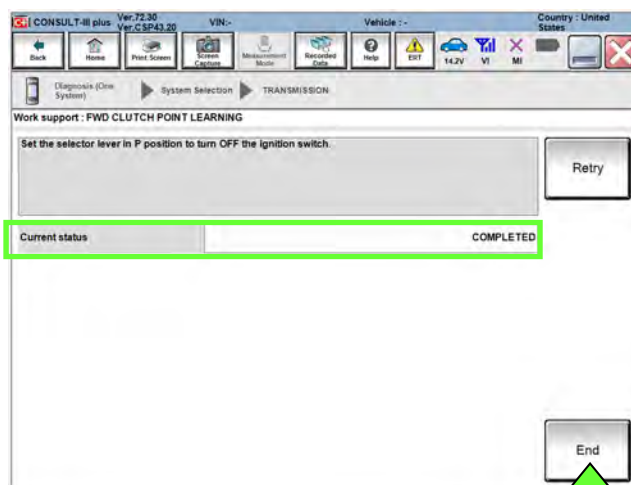

Figure 45
56. When the screen in Figure 45 is displayed, shift the CVT into park (**P**), and then select **End**.